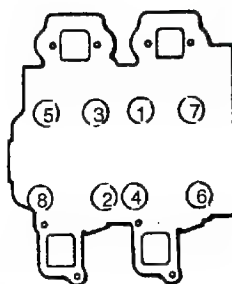

FIGURE 3-31. Cylinder Head Bolt Tightening Sequence
- k. Tighten all eight bolts in three stages and in sequence shown in **FIGURE 3-31**
- (1) First tighten to 6.2 ft-lbs (8.4 Nm).